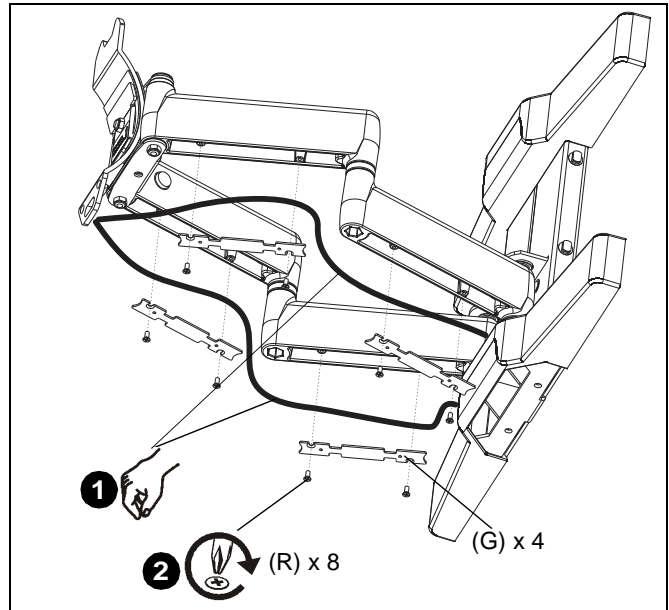

Figure 12
1. Carefully insert cables into cavities located in lower portions of mount arms. (See Figure 12)
2. Install each cover (G) with two screws (R). (See Figure 12)